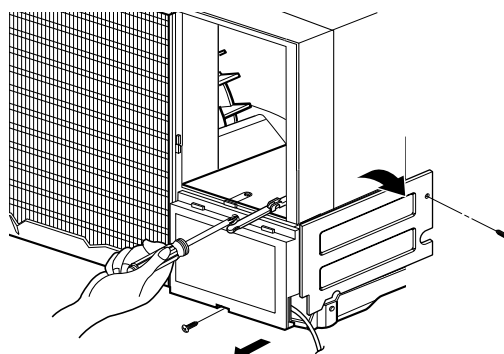

Figure 19
8. Remove the 2 screws which fasten the control box.(See Figure 19)
10. Re-install the components by referring to the removal procedure, above. (See Figure 19)